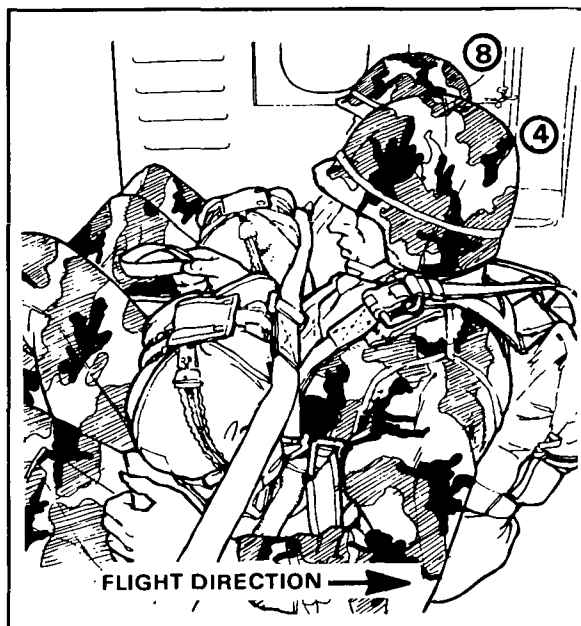

Figure 12-12. Nos. 4 and 8 with static line bight and safety belt secured.
- (1) Nos. 4 and 8 pass the running ends of their safety belt to the center, fasten the belt, and remove excess slack (Figure 12-12).